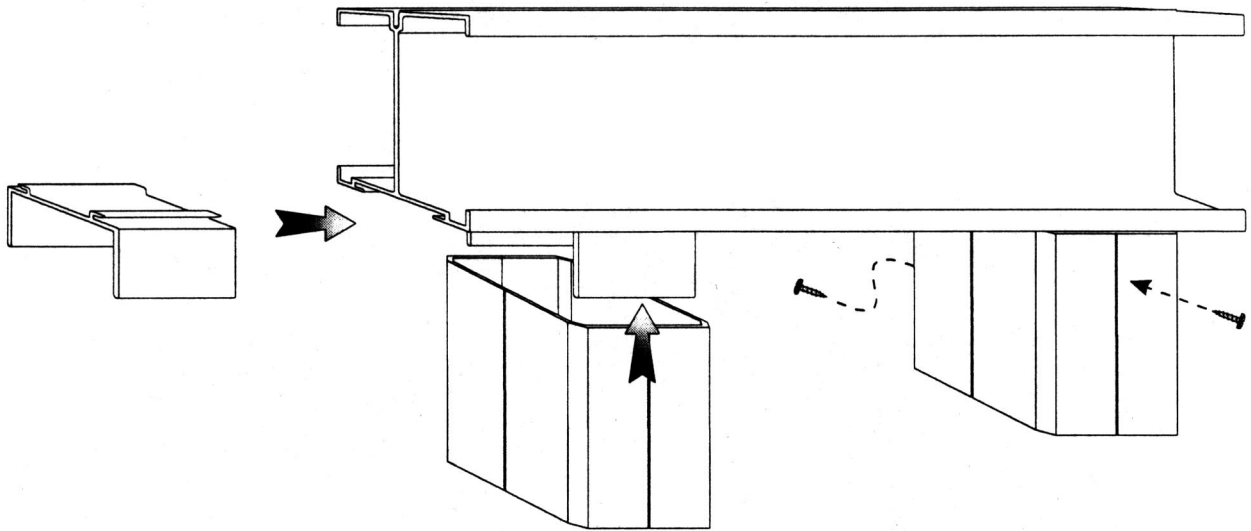

Figure 3 - Installing the Post Top Shoes
3. You should now insert the Post Top Shoes into the I-Beam by sliding them in from either end of the Beam. There should be one Shoe for every post. (See Figure 3- Installing the Post Top Shoes)